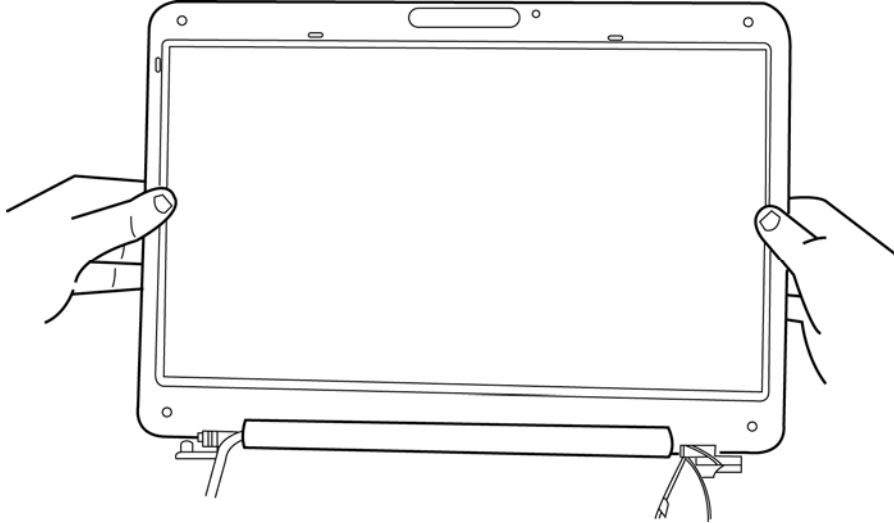

Figure 4.37 Pressing the left and right side of the bezel
5. Press the left and right side of the bezel as shown in Figure 4.37.